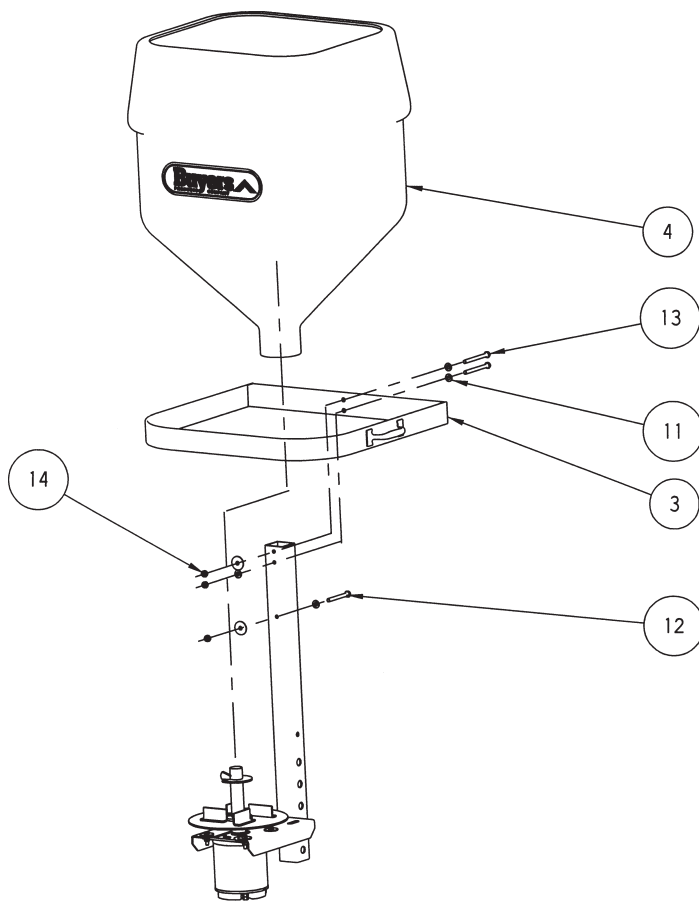

Fig. 3
See Fig. 3
Slide the support band (3) over the hopper (4) from the bottom until it touches the hopper lip. Slide the hopper/band assembly over the top of the frame tube until the holes in the hopper and band line up with the holes in the frame tube. Install 5/16-18 x 3 1/2 HH cap screws (13) from the outside of the frame tube at the top through the band and hopper. Install large washer (15) and nut (14) from the inside. Install 5/16-18 x 3 HH cap screw through the lower hole in the frame, into the hopper, and attach large washer and nut from the inside of hopper. See Fig. 3.